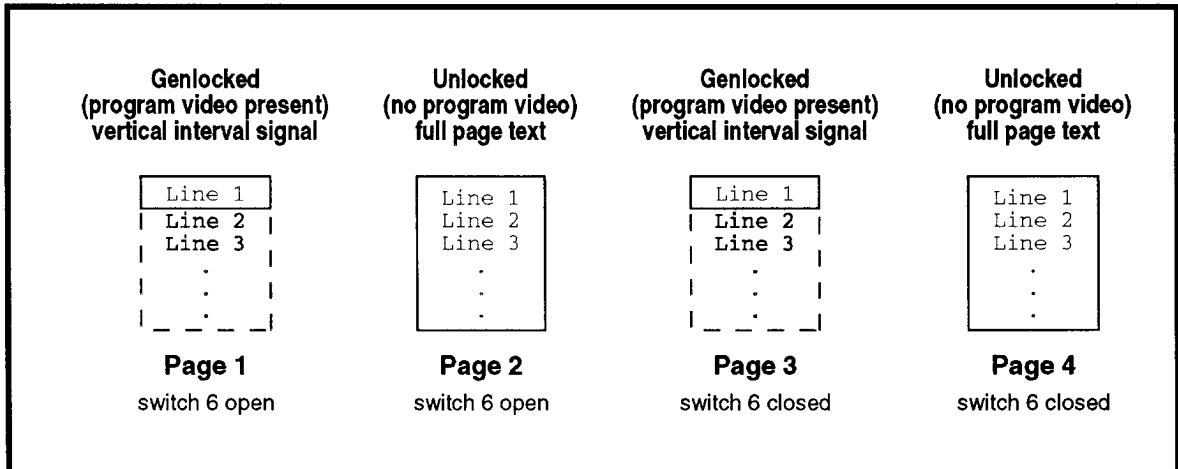

Figure 3–7. Two-page mode.
4. Press <Function> until **C.** appears in the LED display. A cursor consisting of two crossed arrows pointing right and down (as shown in Figure 3–5) appears on the monitor.